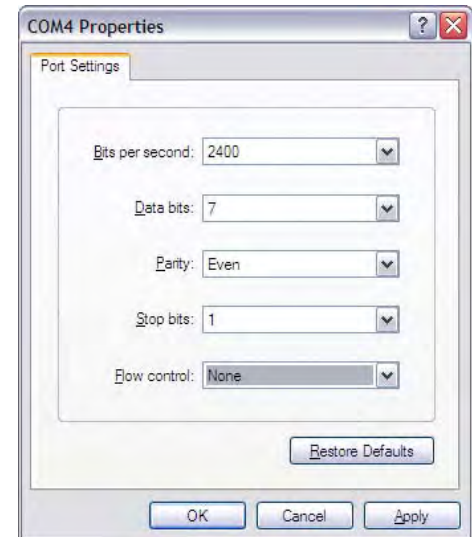

**Figure 12.** Hyperterminal Initial Display
- ❶ Figure 12 is displayed when Hyperterminal is run for the first time. Enter an easily identifiable name to reference the communications session. Future Hyperterminal sessions are initiated by selecting the named session.